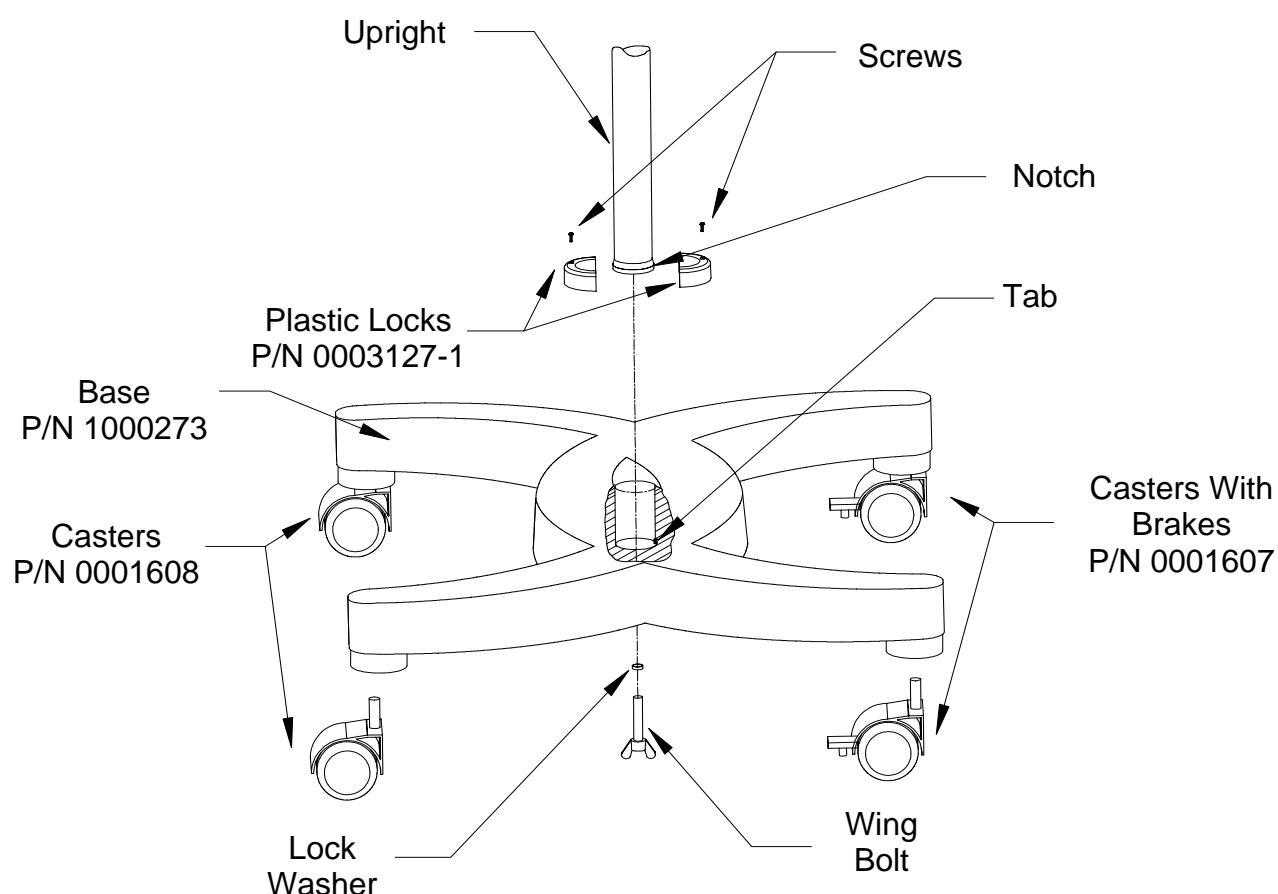

Figure 2 – Floor base/upright installation.
- Press casters into the base bottom as shown on figure 2. Install the casters with brakes to the rear of the floor base. The rear side is designated by the tab at the bottom of the floor base.
- Install the upright into the base as shown on figure 2. Make sure to align the notch on the upright with the tab in the floor base hole.
- Secure the upright with a wing bolt as shown in figure 2. Install the lock washer and the wing bolt from the bottom of the base.